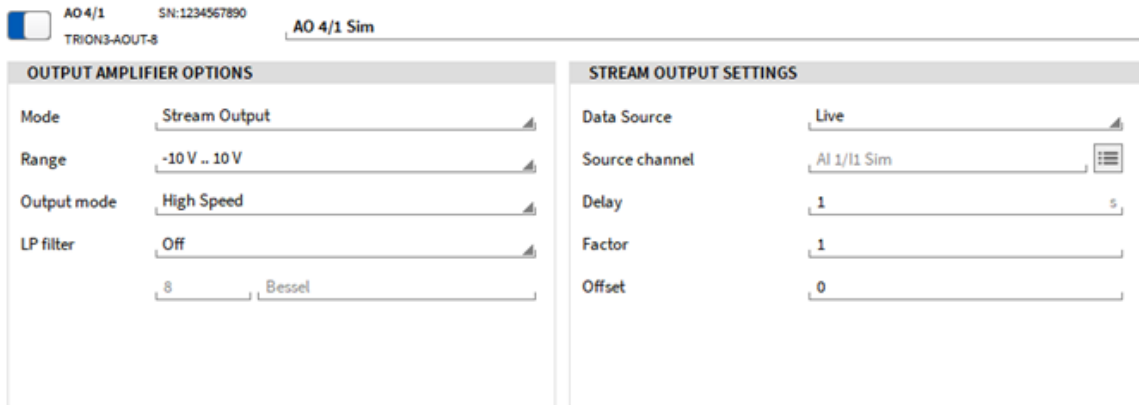

Fig. 4.12: Channel settings for the Stream Output functionality
- Open the channel settings of each channel, that should be used for the stream output (see Fig. 4.12).